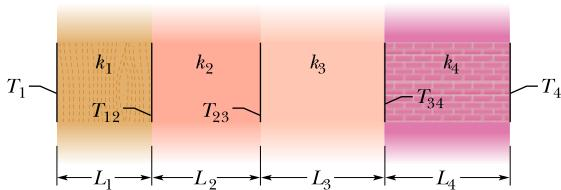

Figure 18.26 Problem 63.
**63 M GO** Figure 18.26 shows (in cross section) a wall consisting of four layers, with thermal conductivities  $k_1 = 0.060 \text{ W/m} \cdot \text{K}$ ,  $k_3 = 0.040 \text{ W/m} \cdot \text{K}$ , and  $k_4 = 0.12 \text{ W/m} \cdot \text{K}$  ( $k_2$  is not known). The layer thicknesses are  $L_1 = 1.5 \text{ cm}$ ,  $L_3 = 2.8 \text{ cm}$ , and  $L_4 = 3.5 \text{ cm}$  ( $L_2$  is not known). The known temperatures are  $T_1 = 30^{\circ}\text{C}$ ,  $T_{12} = 25^{\circ}\text{C}$ , and  $T_4 = -10^{\circ}\text{C}$ . Energy transfer through the wall is steady. What is interface temperature  $T_{34}$ ?